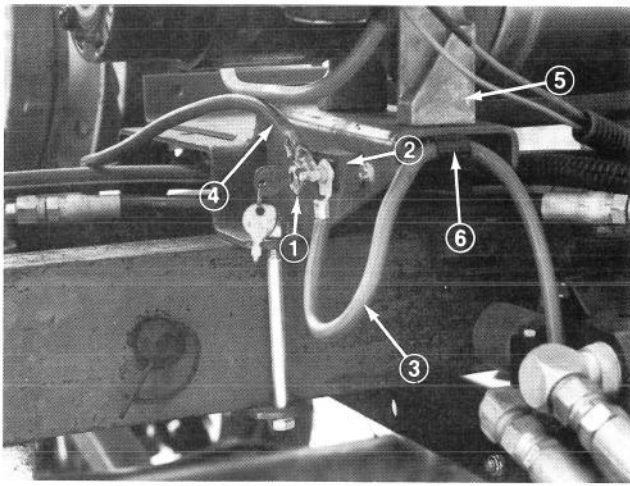

Figure 3
4. Mount key switch in rear mounting hole of support extension with lock washer and nut supplied with switch (Fig. 3). Position switch so key is vertical when in "off" position.
5. Mount circuit breaker to support extension with (2) 10 — 24 x ½" machine screws and locknuts. Position circuit breaker with battery ("B") terminal to the rear (Fig. 3).
6. Secure frame wire assembly (90") to "A" terminal of circuit breaker. Secure red battery cable (20½") to "B" terminal of circuit breaker (Fig. 3).
7. Mount power pack assembly to support extension with (2) 3/8 16 x 1" capscrews and lockwashers. Using front mounting capscrew and lockwasher, secure frame wire to support extension with "R" clamp (Fig. 3).